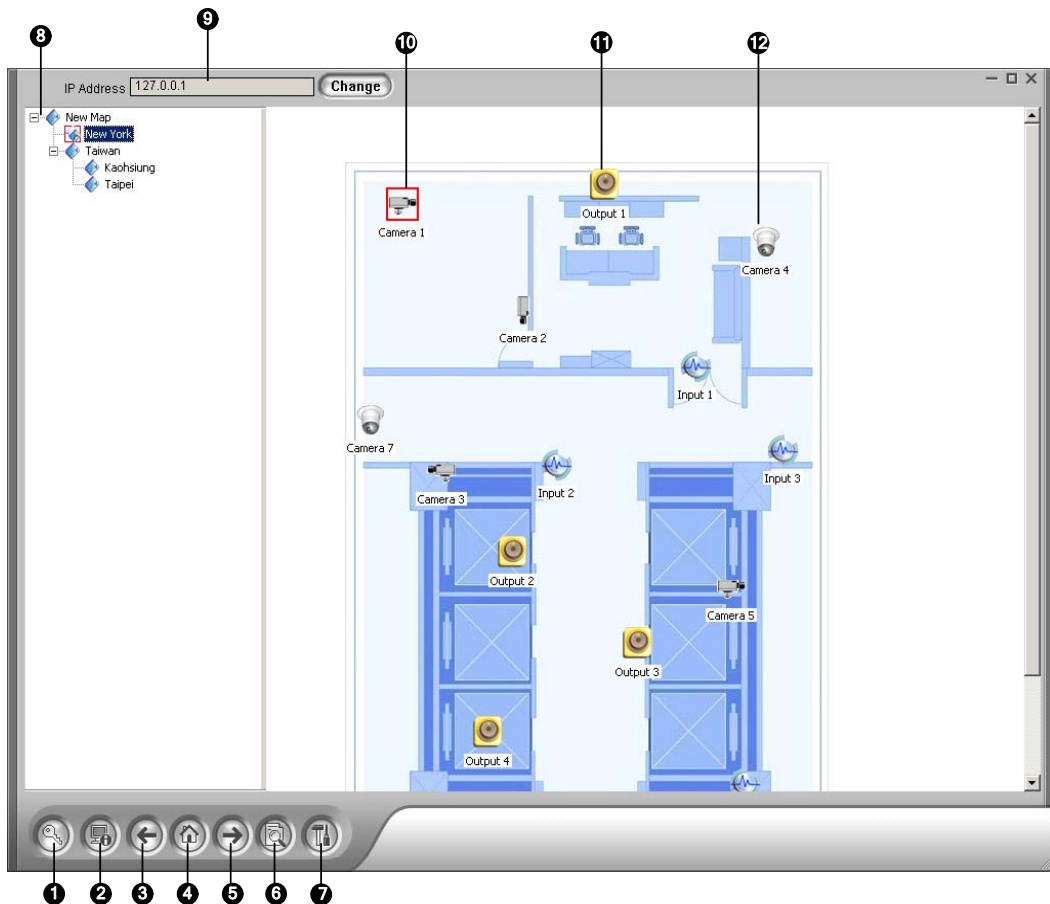

Figure 9-5 The Remote E-Map Window
Click the **Login** button (No. 1, Figure 9-5) to display the following Login window.
Click the **Configure** button (No. 7, Figure 9-5) to display the following dialog box:
The Host Information window lists the triggered events of cameras and I/O devices. Click the **Host Information** button (No. 2, Figure 9-5) to open it.
On the Remote E-Map window, the **ViewLog** button (No.6, Figure 9-5) is designed for the Remote ViewLog function, giving you remote access to the recorded files of DVR and playing back video by the player ViewLog.
4. Click the **Login** button (No.1, Figure 9-5) to select the desired host(s) to access videos and I/O devices.